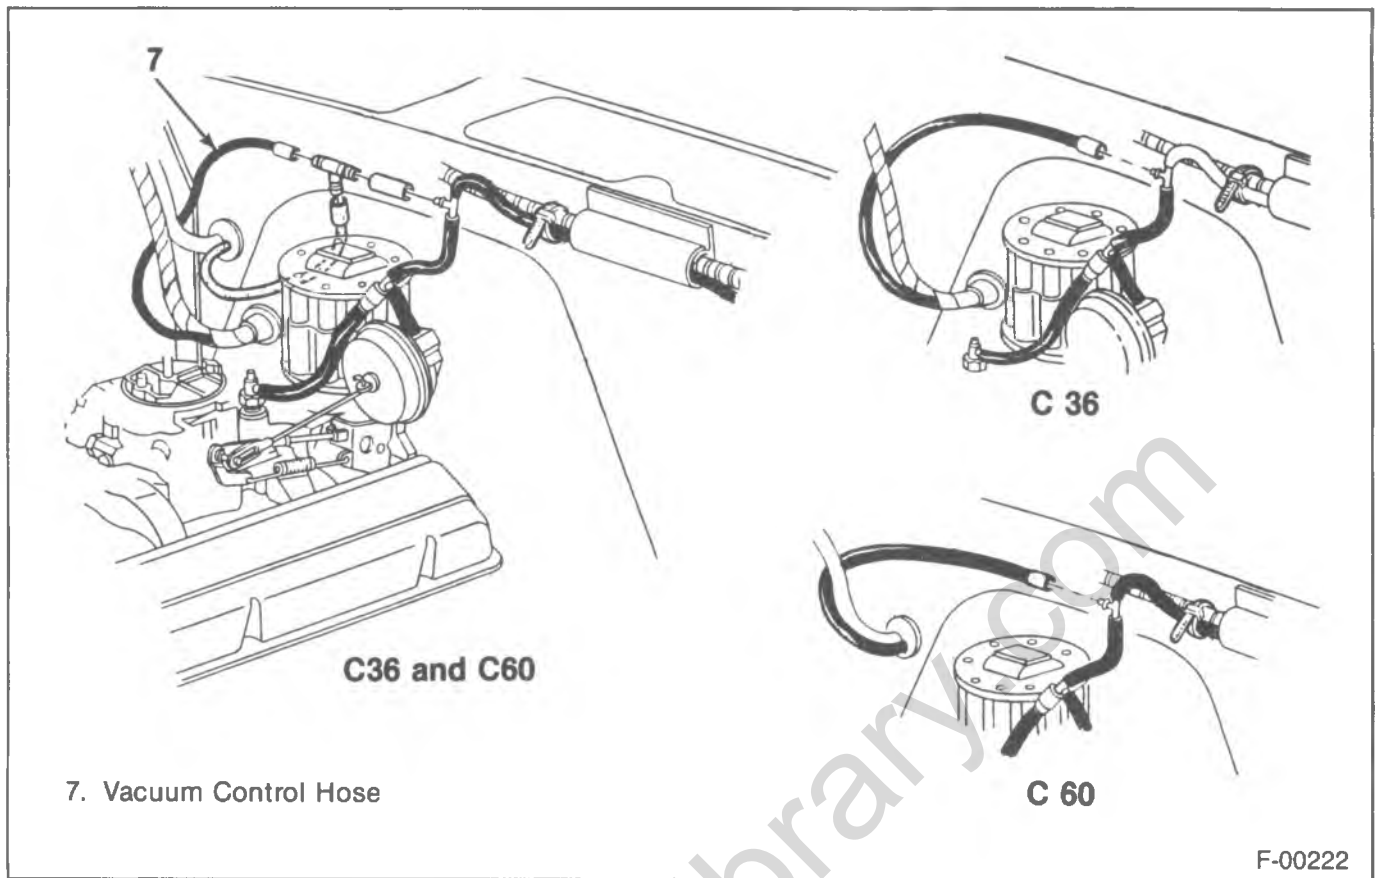

Figure 43—Vacuum Hose — 5.0, 5.7 and 7.4L Engine
2. 5.0L, 5.7L and 7.4L engines (figure 43).